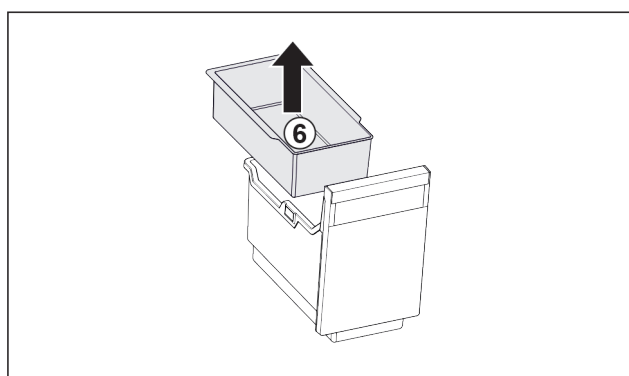

Fig. 30
- ▶ Remove the hang-on tray Fig. 30 (6).